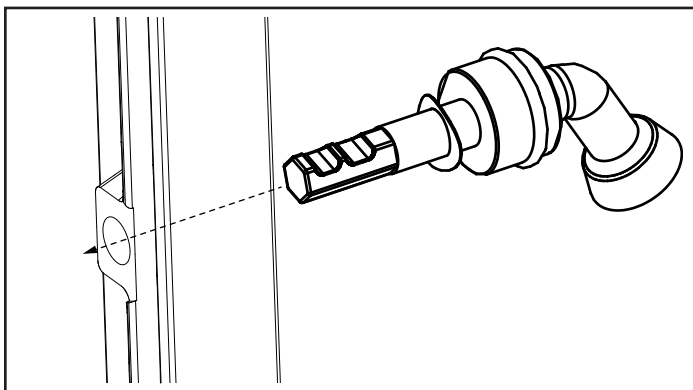

Figure 2
4. Check that the drilled hole is free of burrs. Slide handle into 10mm hole, Figure 2. DO NOT LUBRICATE!